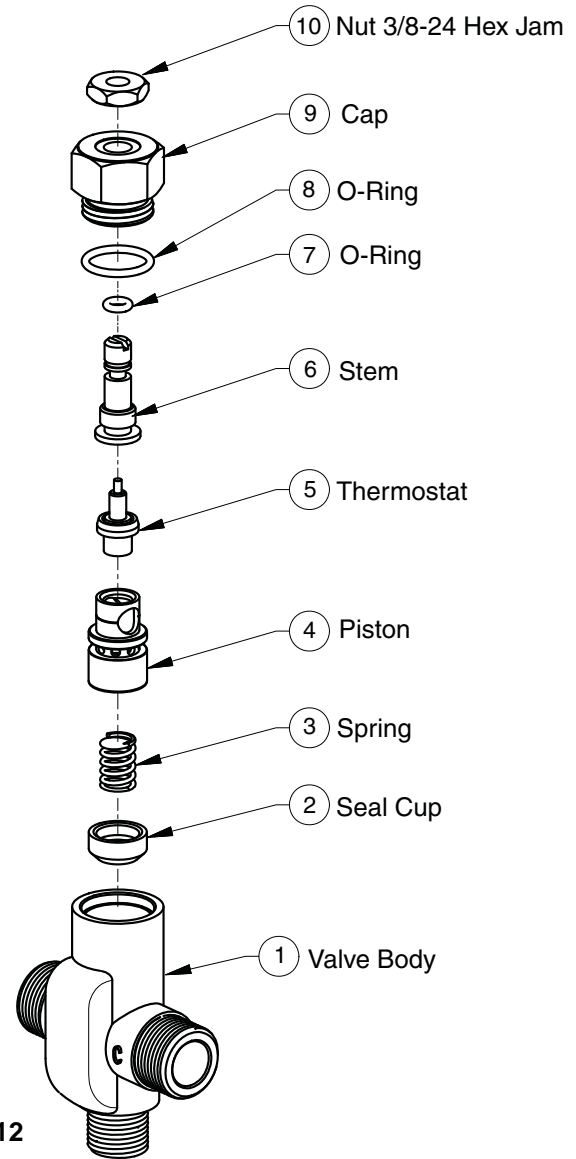

Figure 12
1. Remove the valve's cap and thermostat (see Figure 12 on Page 29).